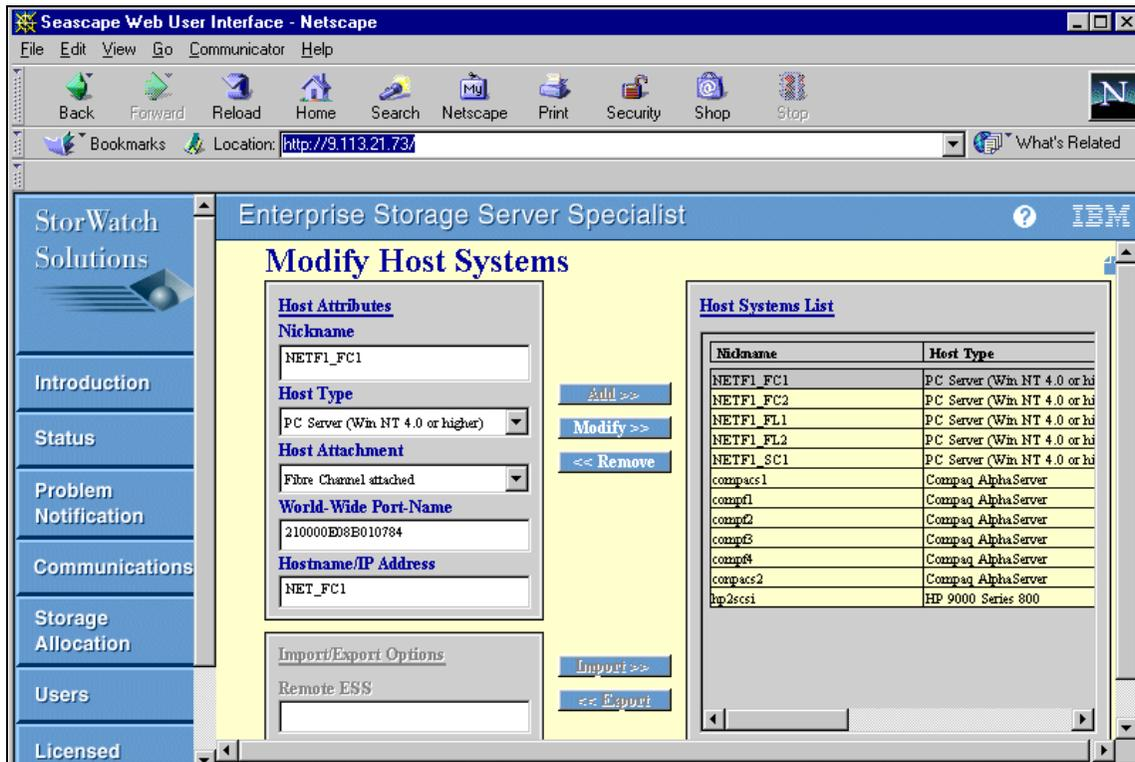

Figure 12. Modify Host Systems screen
6. Click **Modify Host Systems** (Figure 12).